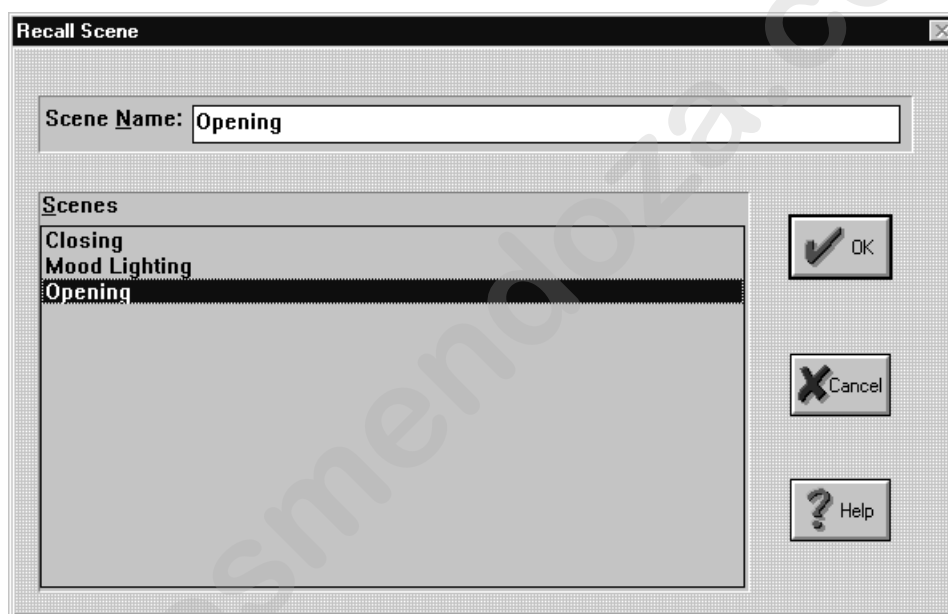

Figure 5.43. Recall Scene Dialogue Box
2. Press the <RECALL> key in the MEMORY group to bring up the **Recall Scene** dialogue box. Refer to Figure 5.43. Alternately, select **Recall** from the **Memory** drop-down menu.